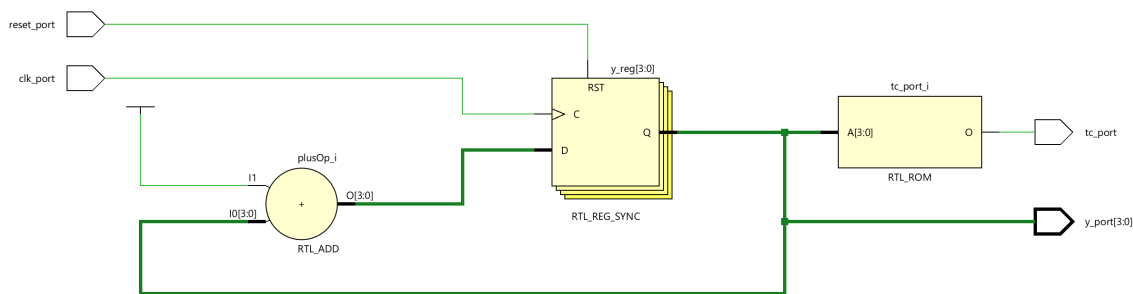

Figure 1: Elaborated Schematic
1. **Elaboration** is the process of interpreting a VHDL model to create a network of function blocks. The result can be printed as a block diagram. Select **RTL Analysis** → **Open Elaborated Design**. When elaboration is complete, you should see a familiar picture (Fig 1), albeit with slightly different names.